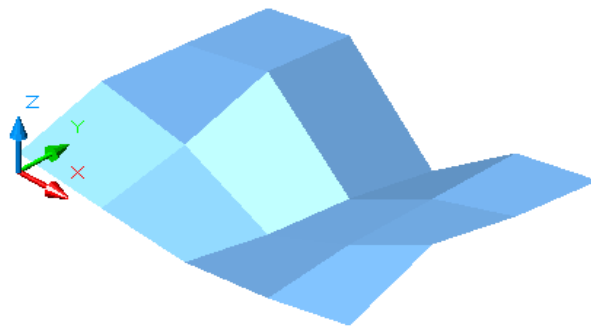

Figure Step 2
Step 2 Turn off all layers except layer: Surface 1. Set the current visual style to Realistic, the current UCS to World and the current view to SE Isometric. (Figure Step 2)